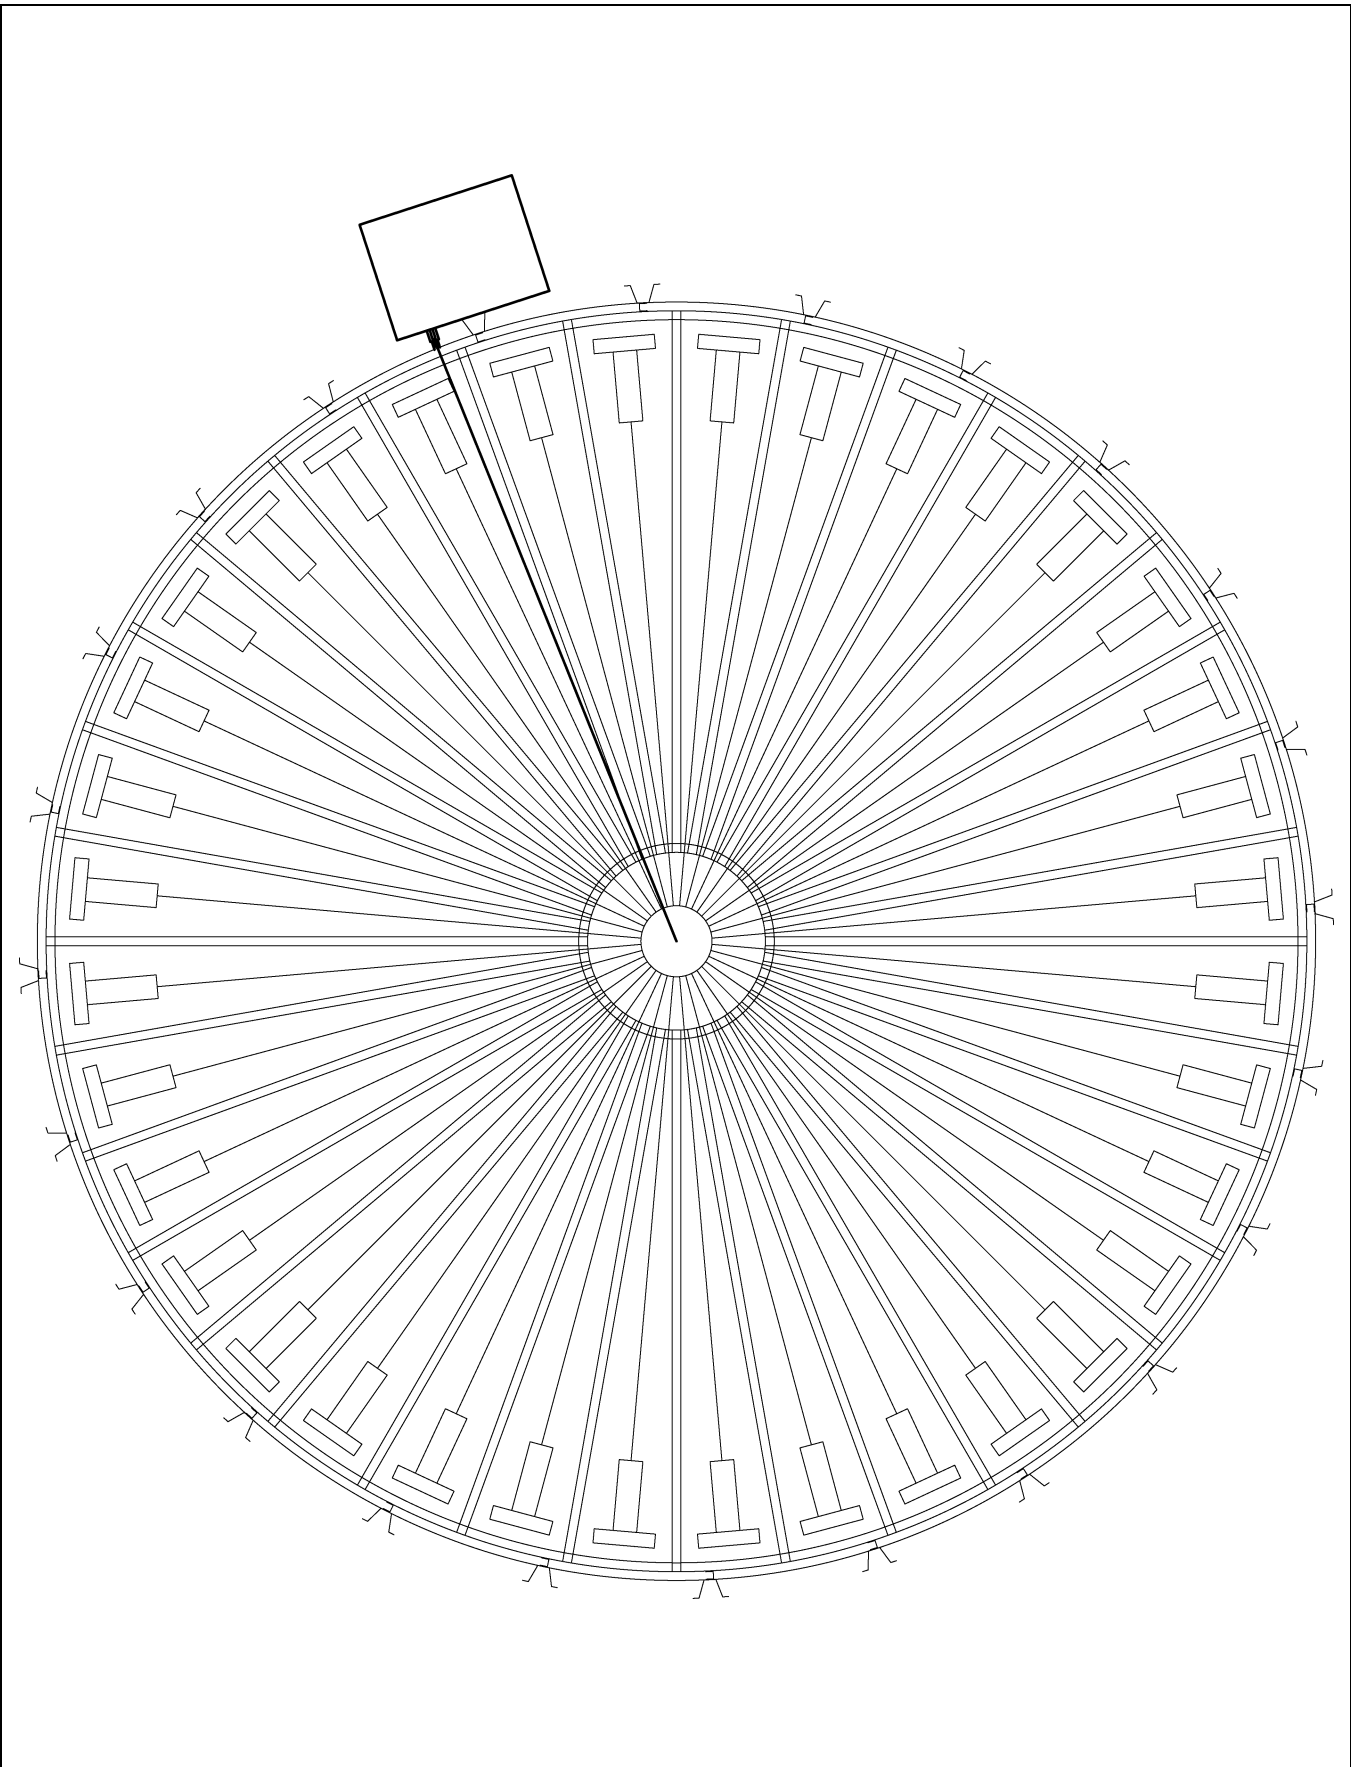
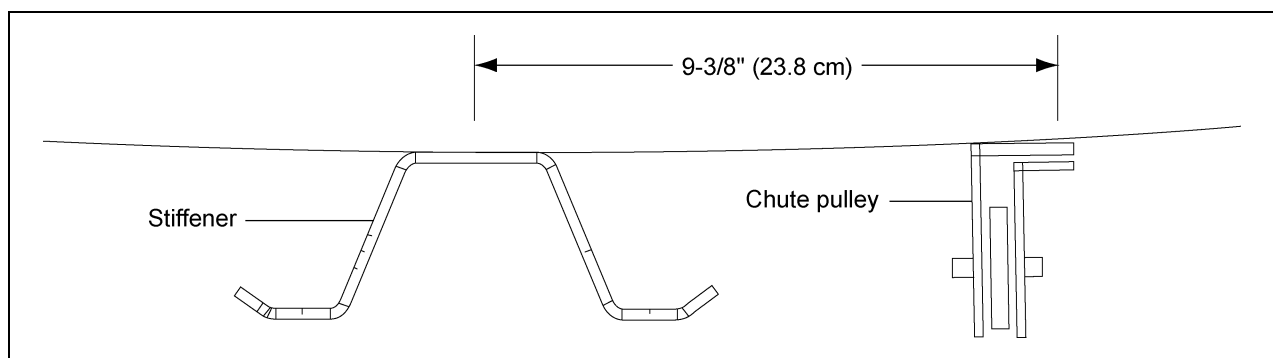

Figure 3A Chute Pulley Cable Location
Figure 4A
1. Position the pulley in the hole that is located 9-3/8" (23.8 cm) horizontally from the center of the stiffener. **NOTE:** When positioning the pulley, ensure the pulley cable does not interfere with the dump chutes. This can only be accomplished at every other stiffener. (See Figure 4A below and Figure 3A on Page 12.)